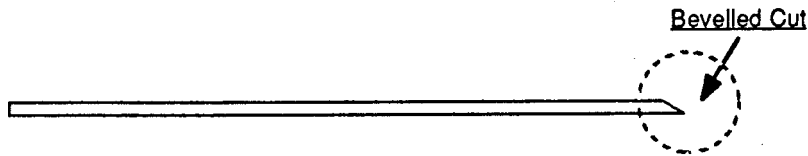

Figure 6-4-3 Sample Aspiration Tube
- D. Prepare a new sample aspiration tube (P/N 442-5417-4/Tube Teflon 0.5 x 2.0 x 69 mm), with a bevelled cut as shown in Figure 6-4-3. Do not stretch or bend the tube.